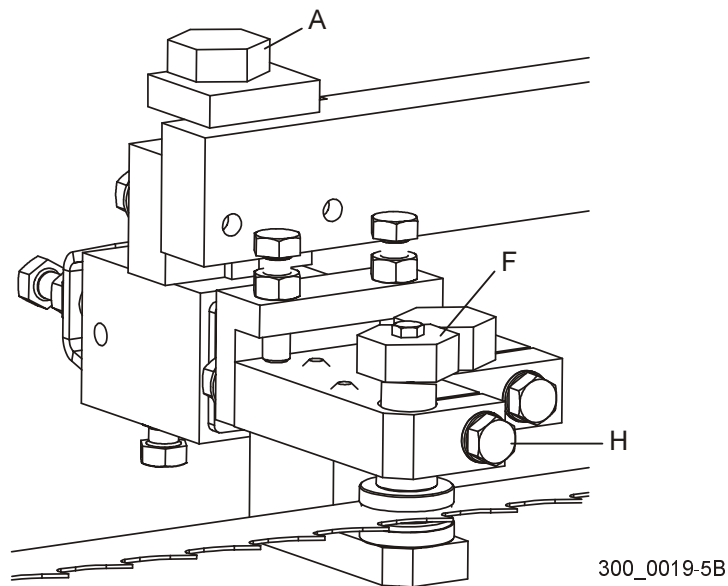

FIG. 7-8
See Figure 7-8. Use bolt (A) to adjust each blade guide assembly down, then back up so there is a slight gap between the bottom guide disks and the blade. Loosen clamp bolt (H) and turn bolt (F) clockwise to adjust the top disk down until the blade is firmly clamped between the guide disks.